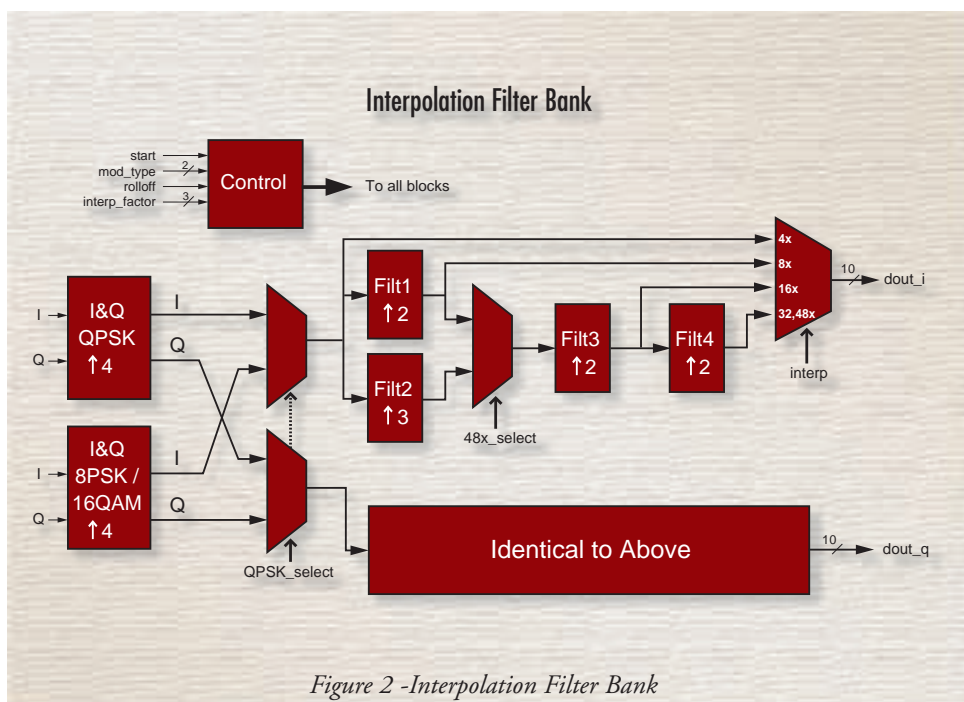

Figure 2 -Interpolation Filter Bank
The module operates over a broad range of interpolation factors for each of the modulation types and rolloff factors described above. Figure 2 illustrates the block diagram
- **DUT** – Design under test. Figure 2 shows the modules contained within this block.